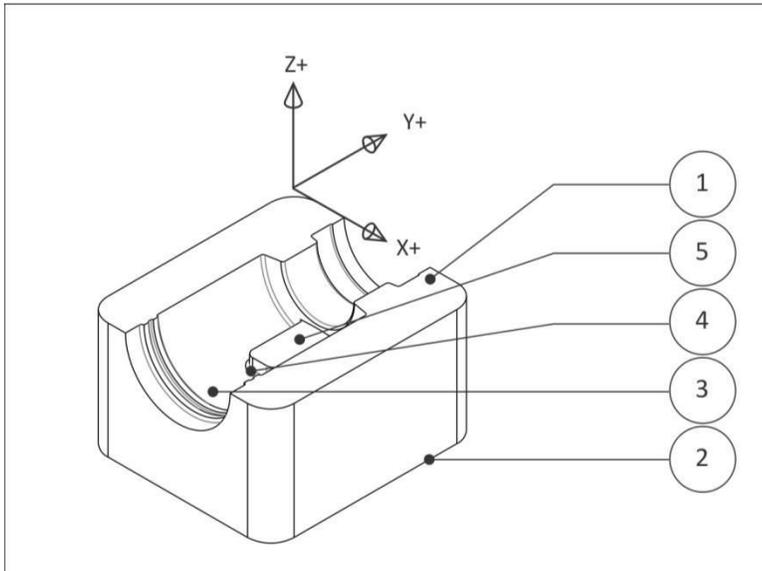

Figure 3: 3D Part
3D refers to non---prismatic parts, including molds and complex organic shapes. Most consumer goods, for example, include 3D features. Figure 3 shows half of a stamping die. This part is typical in that it includes both 3D and 2D features. The 2D features are the top face (1), and the outside contour (2).